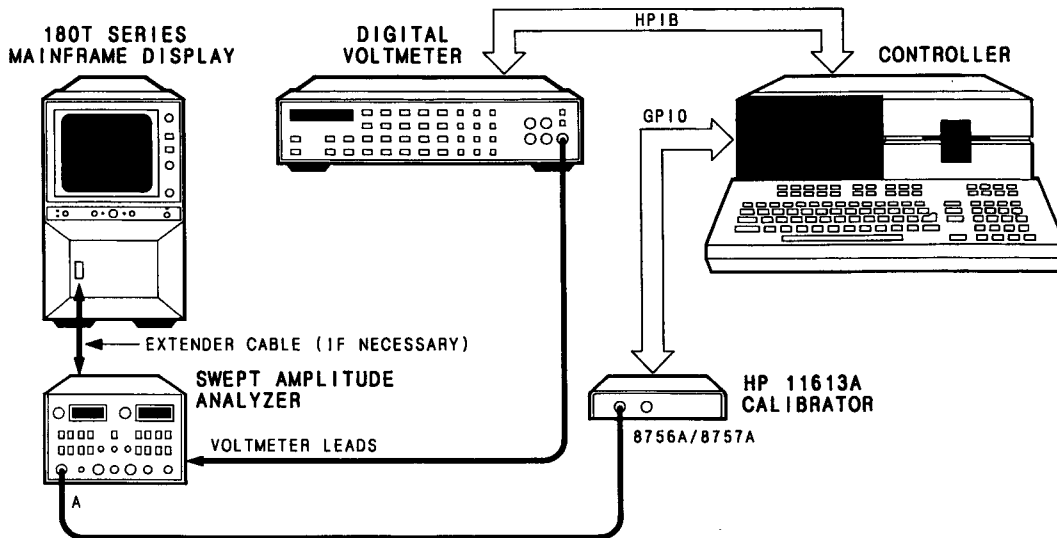

Figure 5-1. HP 8755A/B/C Calibration Setup
This section explains how to use the HP 11613B to calibrate the log amplifier boards of the HP 8755A/B/C network analyzer. Note that NBS traceability of the HP 8755A/B/C is confirmed by passing the *Amplitude Accuracy* performance test using NBS traceable attenuators as described in the *HP 8755A/B/C Operating and Service Manuals*. Much of the information which would normally appear in this section resides in the software supplied with the calibrator itself. Thus to operate the calibrator, you need only connect it as shown in Figure 5-1 and respond to the CRT prompts.
1. Connect the equipment as shown in Figure 5-1 and as described in "Voltmeter Configuration" and allow one hour for warm-up. Observe the operating temperature limits. During this time leave all of the covers of the HP 8755A/B/C on.